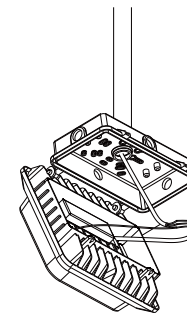

Figure 1-5
5. Connect the input line and ground; If the fixture is equipped with sensor, adjust the sensor settings. Take relevant waterproof measures after the wires are connected ;Figure 1-5